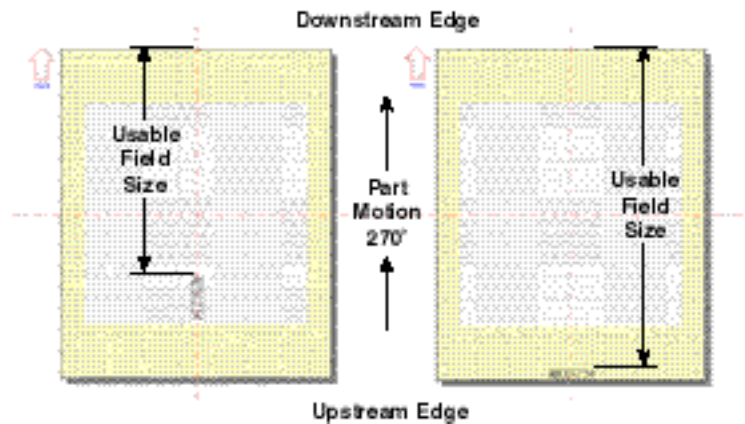

Figure 6 Mark length comparisons
- Mark position and orientation make a substantial difference in Tracking speed because they change *Usable Field Size*. Maximum line speed is achieved when the *Mark* is positioned as close as possible to the upstream edge of the *Drawing Canvas*. Figure 6 shows how the same text positioned differently can give two very different values for *Usable Field Size*.